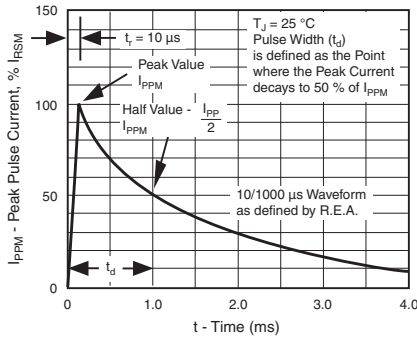

Figure 1. Pulse Waveform
(1) Pulse test:  $t_p \leq 50\text{ ms}$
(2) Surge current waveform per Fig. 1